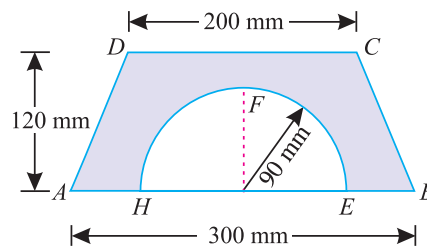

Fig. 6.23.
**Example 6.13.** A semicircle of 90 mm radius is cut out from a trapezium as shown in Fig 6.23